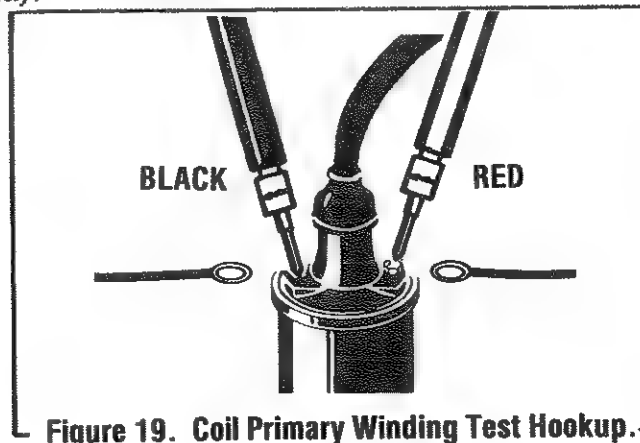

Figure 19. Coil Primary Winding Test Hookup.
4. Touch test probes to Positive (+) and negative (—) coil terminals (figure 19).